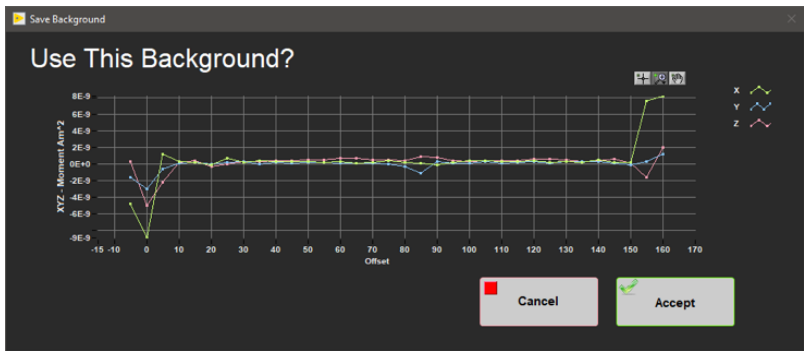

Figure 12- Background Confirmation Window
- 3) When the process is complete the user will be prompted to **ACCEPT** and save background data (**Figure 12**). If the background data looks suspect (high values or peaks), select **CANCEL**.